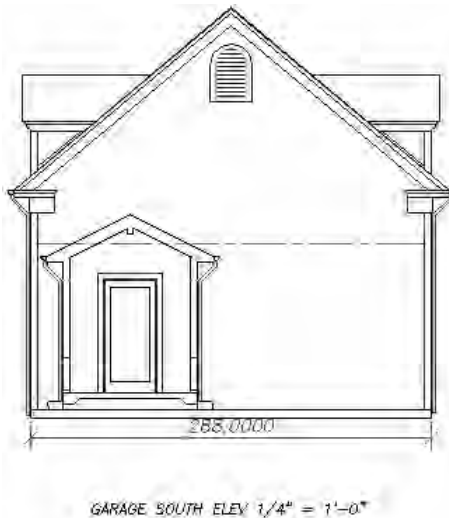

Figure 15-24: As a result of changing the overall scale, you can finally see the dimension.
8. Save your drawing. You can finally see the dimension! It should look like Figure 15-24. Keep this drawing open if you are continuing on to the next exercise.